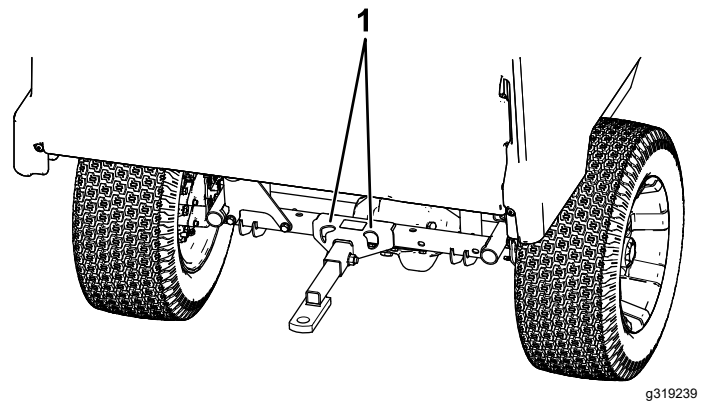
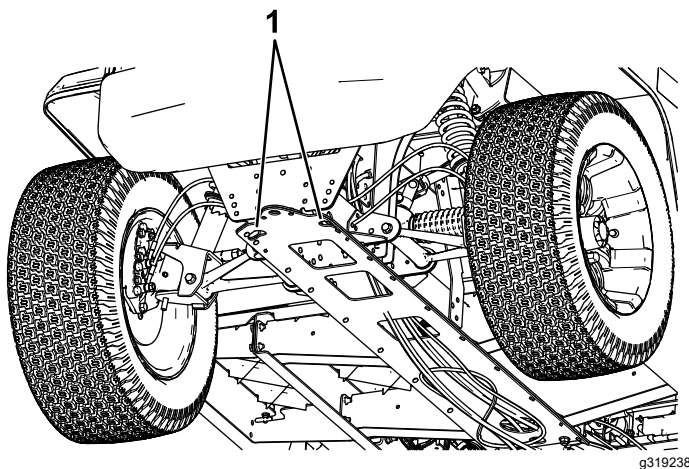

Figure 24
Figure 23
Refer to Figure 23 and Figure 24 for the tie-down locations on the machine.
2. Affix a tow line to the tongue at the front of the machine's frame (Figure 23).